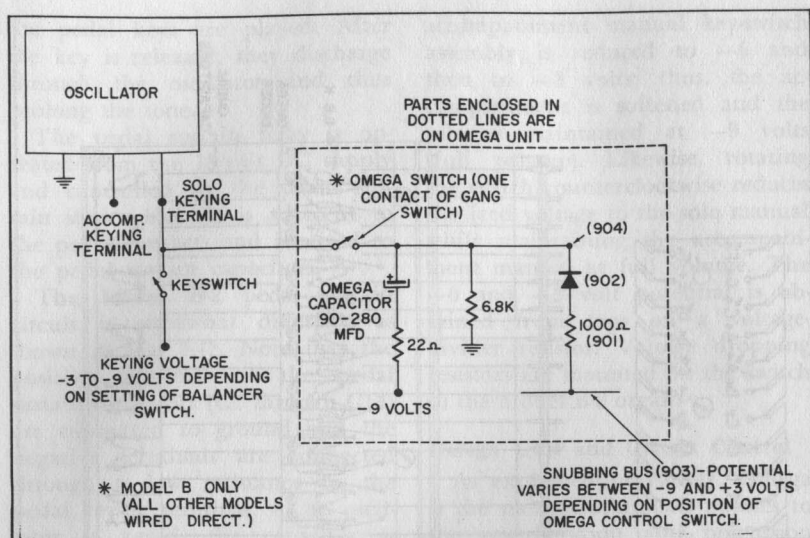

Fig. 4-14. Omega circuit for a single key.
Fig. 4-14 is a schematic of the circuit for one note of the omega unit. In parallel with the oscillator circuit and associated with each omega capacitor is an alternate charging circuit consisting of a resistor (901) and a diode (902). Called the snubbing circuit, it controls the decay time by allowing the omega capacitor to charge more quickly than would be possible if the charging current had to come through the oscillator circuit. The snubbing circuit can be adjusted to provide a decay period ranging from a fraction of a second to approximately two seconds.
The 22-ohm resistor in series with the omega capacitor (Fig. 4-14) prevents sparking when the capacitor is discharged by the closing of a key switch. The 6.8K resistor keeps the omega capacitors charged when the Omega switch is open.
Depressing the Omega Off piston connects +4.1 volts to the omega snubbing bus (Fig. 4-14) giving the solo manual a normal decay. Depressing any other piston releases the Omega Off piston and changes the snubbing voltage, thereby lengthening the decay time. In a few early Model B-2 organs, the Percussion Long piston, in addition to connecting -9 volts to the snubbing bus, activated the tremolo relay to stop the rotor.